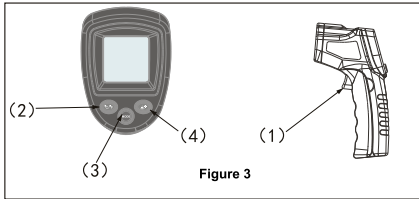

Figure 3
2. Button functions: as shown in Figure 3